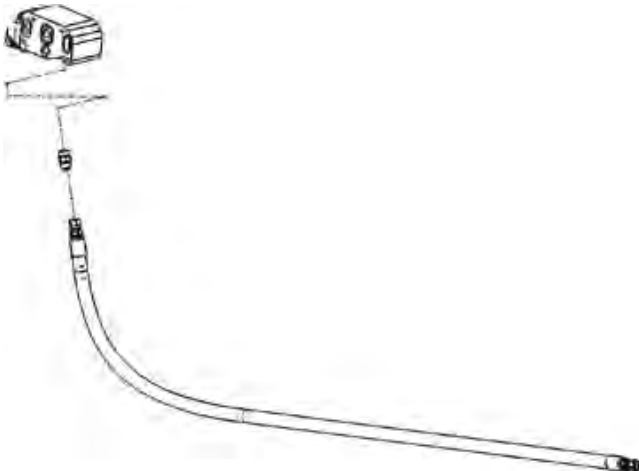

Figure 6: Manifold to loader power beyond hose
7. Install loader power beyond hose (Ref. 08) to the manifold block at this time. The other end of the hose will attach to the loader's power beyond port later in step 24. (Fig. 6)